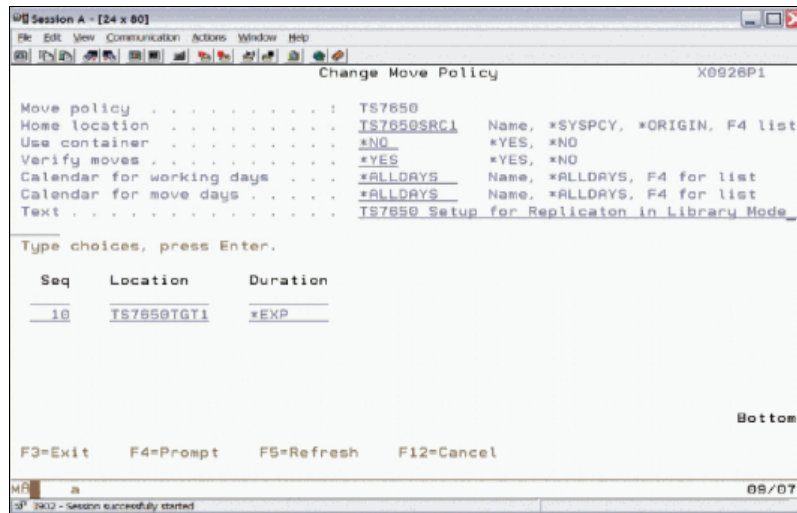

Figure 17-4 Example of a media policy
1. After the virtual cartridges are added to BRMS and initialized, set up the BRMS move policy to move the cartridges from the location TS7650SRC1 to TS7650TGT1. The cartridge stays in the TS7650TGT1 until it expires. Give the move policy a name, TS7650 (Figure 17-4).
The Media policy in Figure 17-4 specifies TS7650.